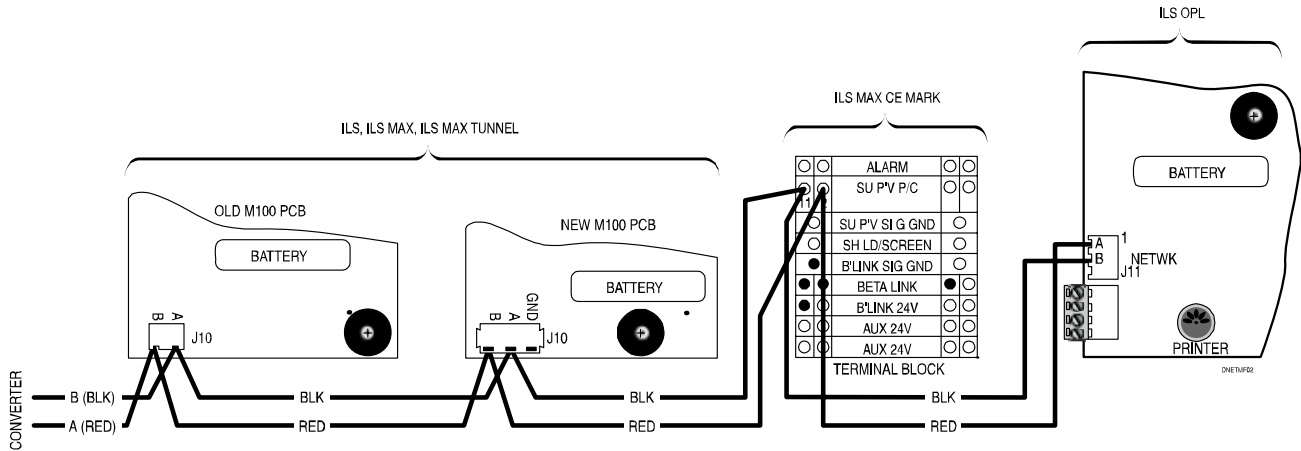
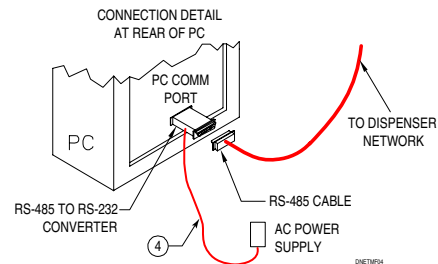
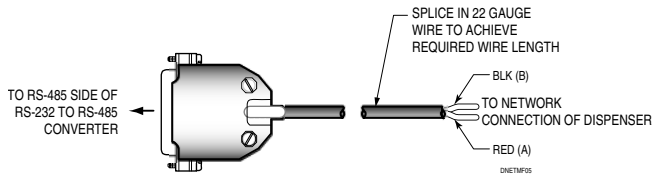

Figure 2. Multiple Dispenser Models in a Dispenser Network
Figure 4. Network to Local PC Connection Using Converter
Figure 5. RS-485 Cable
- Disconnect power to all of the dispensers and locate their network connections. Remember that these connections are polarized. Connect A of one unit to A of the next unit and B to B. (The polarity markings are visible when the connector portion is disconnected from the PCB). Disregard +/- designation. You can also connect different model dispensers into a network, as shown in Figure 2. Take special note of polarity connections between units (see Figure 3). You may need to lengthen your RS-485 cable to accommodate the new network. Use a 22-gauge (CSA 0.35mm²) twisted-pair cable. Refer to Figure 5 for exact wiring details.
Refer to Figure 4. Connect the 25-pin D-connector end of the cable to the RS-485 side of the Converter. You may need to lengthen your RS-485 cable to accommodate the new network. Use a 22-gauge (CSA 0.35mm²) twisted pair cable. Refer to Figure 5 for exact wiring details.